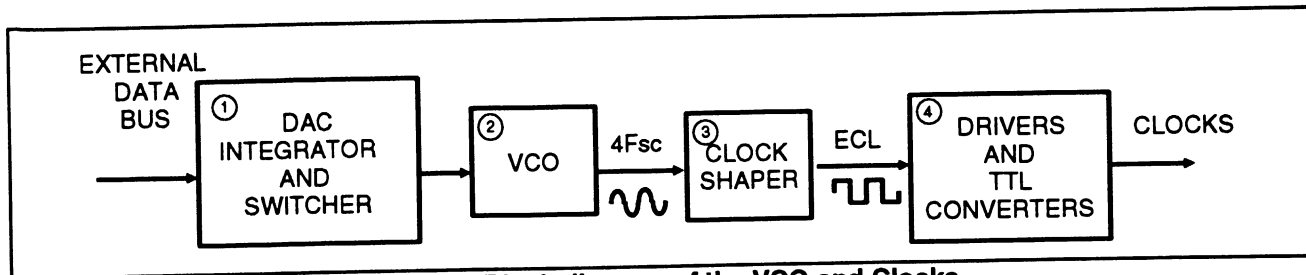

Fig. 2-12. Block diagram of the VCO and Clocks.
④ VCO AND CLOCKS (See Fig. 2-12)
① DAC Integrator and Switcher